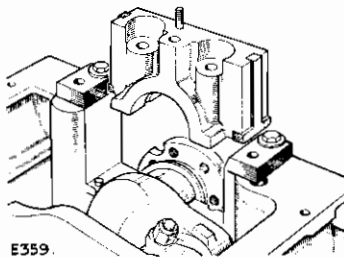

Fig. A-413—Fitting rear bearing cap and seal assembly
16. Fitment of the rear main bearing cap, with side seals in position, will be facilitated by using a lead tool (Part No. 270304) fitted to the sump studs adjacent to rear bearing cap aperture. See Fig. A-413.